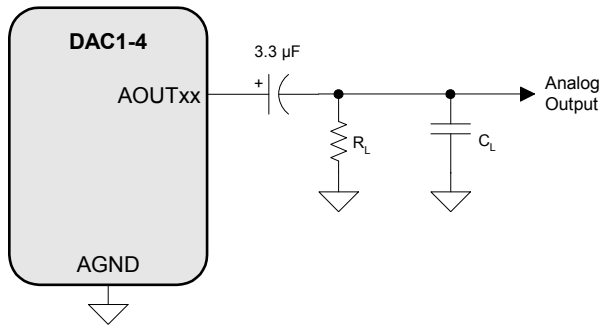

Figure 2. Output Test Circuit for Maximum Load
- Guaranteed by design. See Figure 2. RL and CL reflect the recommended minimum resistance and maximum capacitance required for the internal op-amp's stability and signal integrity. In this circuit topology, CL will effectively move the dominant pole of the two-pole amp in the output stage. Increasing this value beyond the recommended 100 pF can cause the internal op-amp to become unstable. See "External Filters" on page 52 for a recommended output filter.